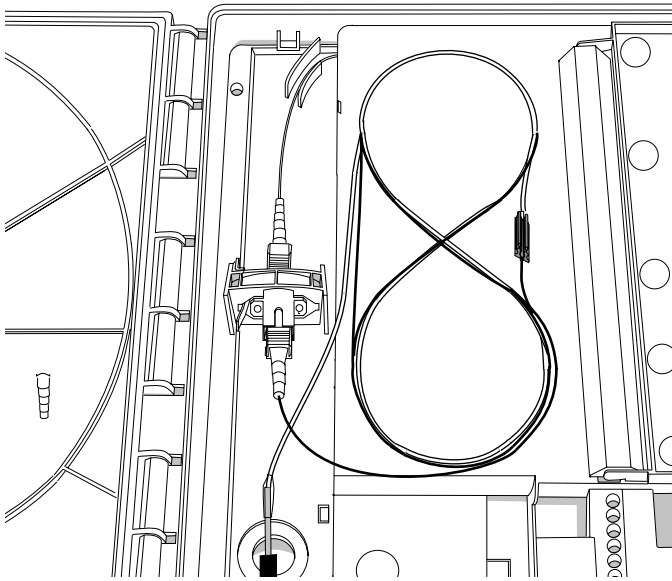

Figure 10
**6.4** Position the drop cable sheath into the NID approximately 1.25 in. and secure it with the cable ties (see Figure 10).
- e) Secure the splice protector in the splice holder (Figure 10).